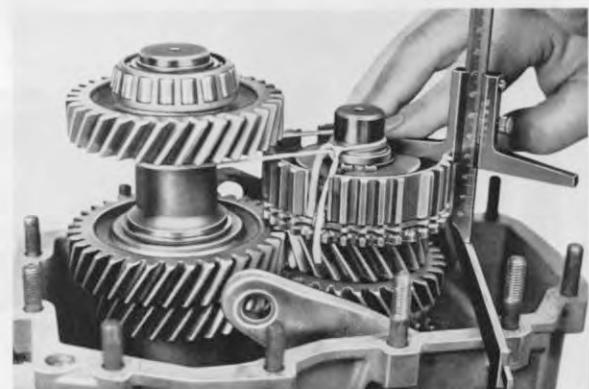

Fig. 45
6. Snap the spring ring (425) into the radial groove of the ball bearing (423). Push ball bearing with the spacer (424) dismantled during disassembly onto the mainshaft (Fig. 45). Bind layshaft to the mainshaft with tape (see Fig. 45).
7. With pressing tool .8., the threaded pieces belonging to it and the 2 distance bushes (426 and 428), press the ball bearing to the stop on the thrust washer (422). Then tap the ball in the housing bore. Leave tool .8. tight.
8. Turn the housing such that the open side points upwards. With a depth gauge measure from the face of the synchrobody to the gearbox joint face (without gasket) (Fig. 45). A straight edge with the high lip on which the slide of the depth gauge is set must be put onto the gearbox joint face (Fig. 45). The measurement established plus the width of the straight edge should amount to $53,5 \pm 0,1$ mm. The difference between the measured size and the theoretical size shows the thickness of the spacer (424), which lies between the recess of the housing and the spring ring (425). The shim (424) which is available in thicknesses of 0,6; 0,8; 1,0; 1,2 and 1,4 mm must, if necessary, be exchanged. Stand gearbox in horizontal position again and take off pressing tool .8.